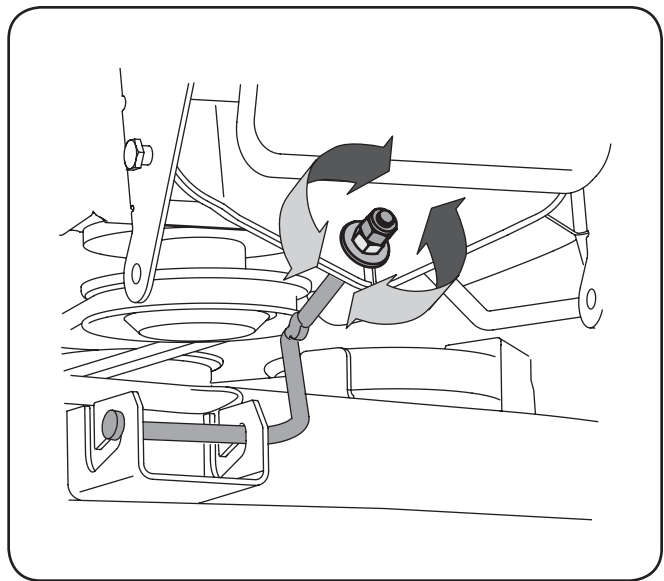

Figure 6-3
3. Locate the jam nut and lock nut on the front side of the stabilizer bracket. See Fig. 6-3. After loosening the jam nut: